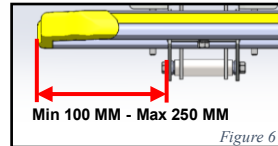

Figure 6
Step 4: Mark the location for the 8 front fastening bolts. (Fig 6) The holes for this attachment should be located on the lower flange of the outer chassis bar of the vehicle.